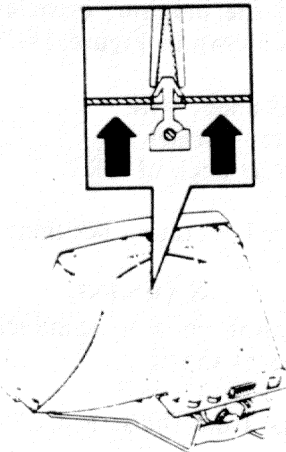

Figure 11-7 Monitor Module Standoff Removal
16. With needlenose pliers, release the standoffs holding the module, as shown in Figure 11-7. Do not worry if the standoffs break; the new module comes with new standoffs.